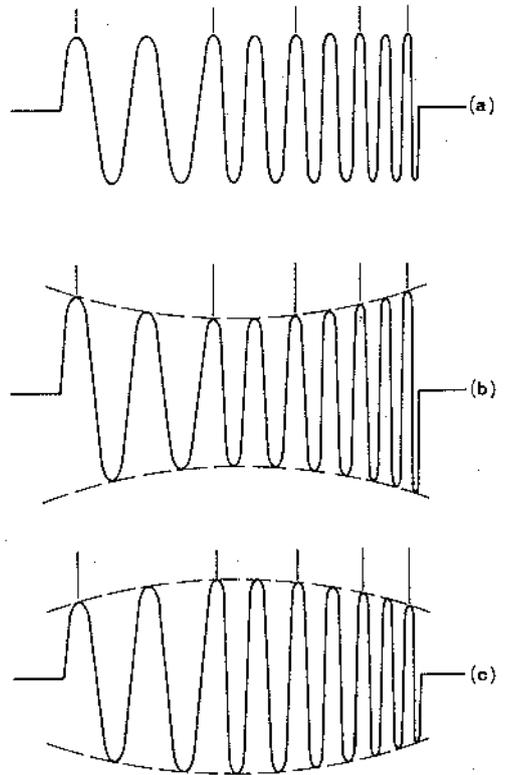

Fig. 25
5. If the frequency response of the measured cartridge is flat, the CRT screen will show a pattern like (a) of Fig. 25, if the frequency response is rising in both high range and low range, the pattern on the screen will show a pattern like (b); and if the frequency response is lowering, in both high range and low range, the screen will show a pattern like (c).